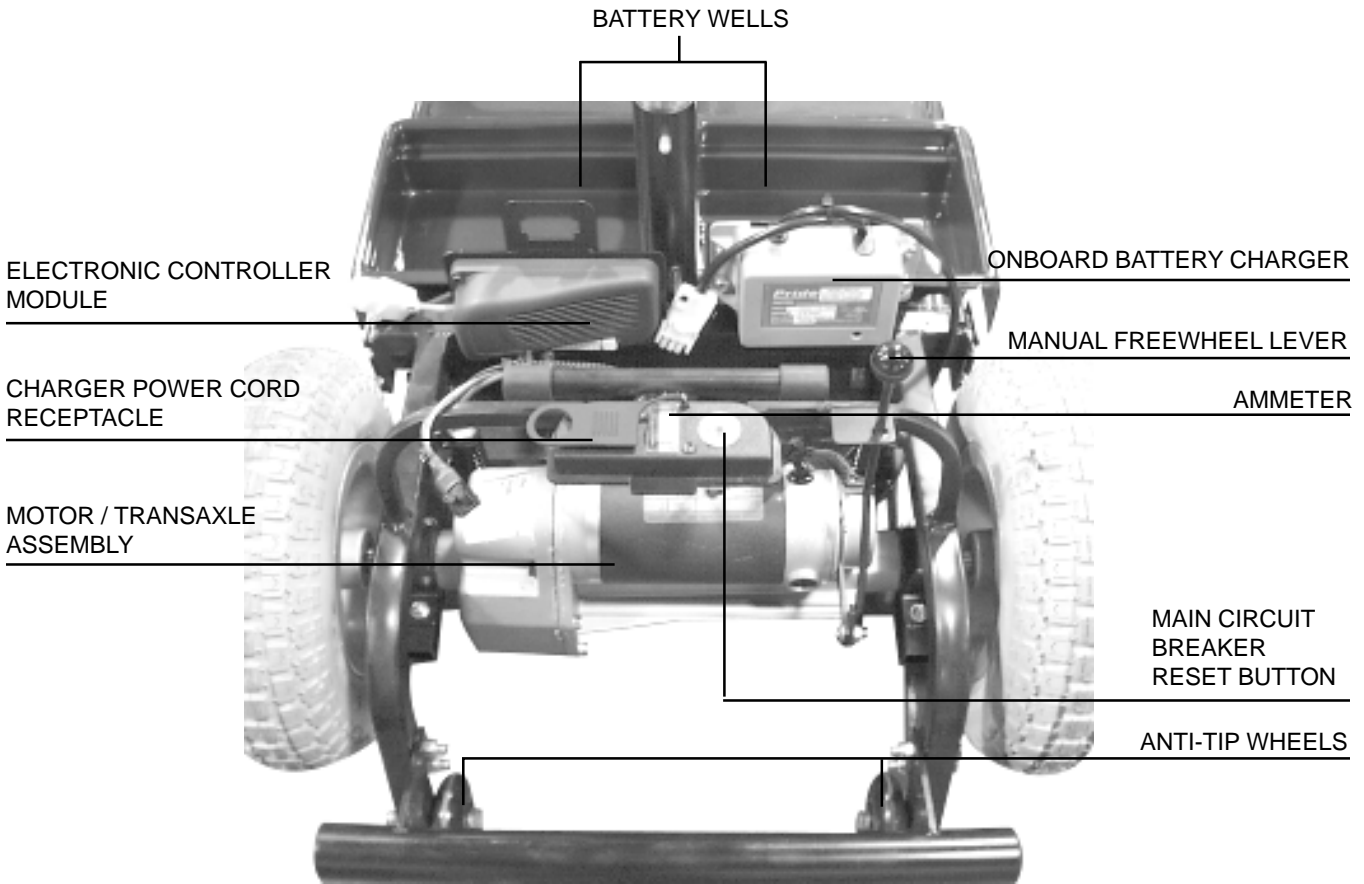

Figure 7. Rear Section
The on-board battery charger, the charger power cord receptacle, the anti-tip wheels, the batteries (not shown), the electronic controller module, the main circuit breaker reset button, the manual freewheel lever, and the motor/transaxle assembly are located on the rear section of your Boxster. See figure 7. See IX. “Disassembly and Assembly” for instructions on removing the rear shroud.
The on-board battery charger converts household current (AC) to direct current (DC) and charges the batteries of your Boxster. See VI. “Batteries and Charging.” The charger is located behind the batteries and at the forward right corner of the rear section. The charger is a gray-colored box with a green LED on the exterior of the case. The charger power cord plugs into your Boxster’s battery charger by means of a receptacle located on the rear section of your Boxster, near the manual freewheel lever and the main circuit breaker reset button. See figure 7.
You can check the charge of you batteries by looking at the ammeter, which is located between the main circuit reset button and the charger power cord receptacle. See figure 7. The battery charger must be plugged into a wall outlet to obtain a reading. When the amperage reading is at or near zero (0) amps, the battery charging is complete.
When the voltage in your Boxster’s batteries becomes low or your Boxster is heavily strained because of excessive loads or steep inclines, the main circuit breaker may trip to protect your Boxster’s motor and electronics from damage. The main circuit breaker is mounted on the rear section of the Boxster, near the manual freewheel lever. See figure 7.
- The manual freewheel lever is located on the end of the motor/transaxle assembly at the right rear of the Boxster. See figure 7.
The motor/transaxle assembly consists of a geared transmission and differential. This one piece, direct drive, fully sealed assembly provides quiet operation with maximum power and long life. See figure 7.
The anti-tip wheels are an integral and important safety feature of your Boxster. Do not, under any circumstances, remove the anti-tip wheels from your Boxster. See figure 7.
Your Boxster uses two long-lasting, 12-volt, deep-cycle batteries that are sealed and maintenance free. They are recharged by an on-board 3-amp charging system designed for ease of use and convenience. See figure 7.
4. Plug the charger power cord into the charger power cord receptacle at the rear of your Boxster. See figure 7.